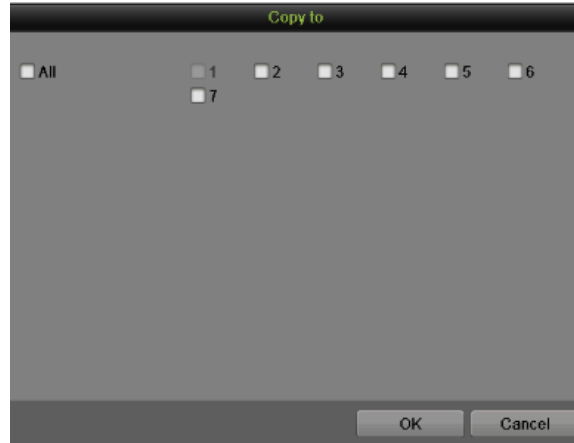

Figure 79 Copy to
- 5) Repeat the above steps to set record schedule for other days in this week. If the schedule can also be applied to other days, click the Copy button to pop-up a Copy to box, as shown in **Figure 79**.